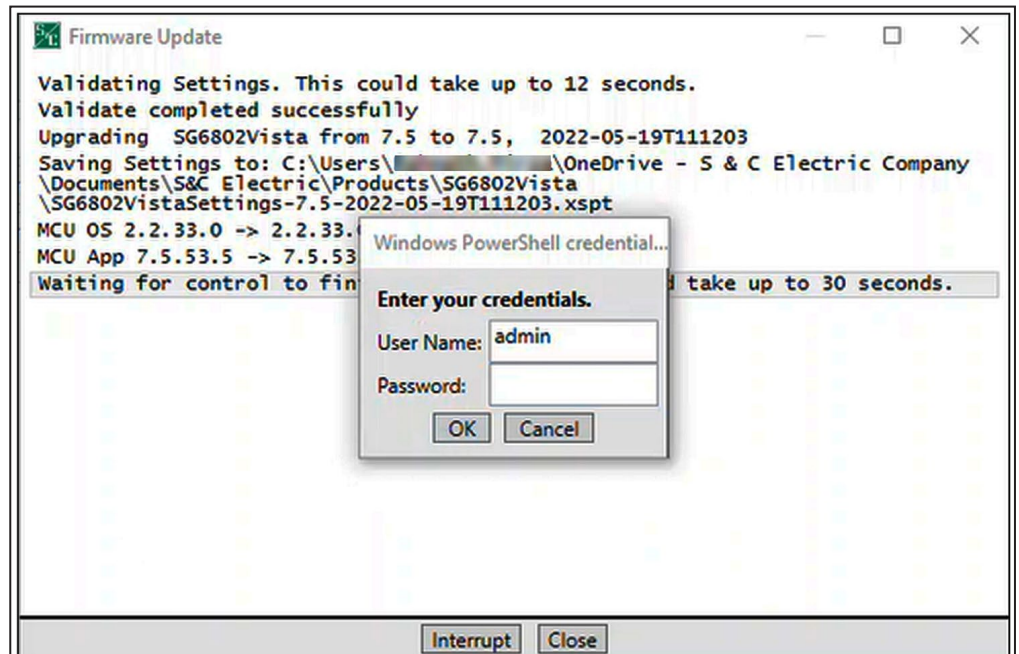

Figure 24. The Windows Powershell Credential dialog box.
STEP 12. If the Windows PowerShell Credential dialog box appears, enter the User Name and Password, and click on the **OK** button. Contact the Global Support and Monitoring Center at (888) 762-1100 if assistance is needed. See Figure 24.